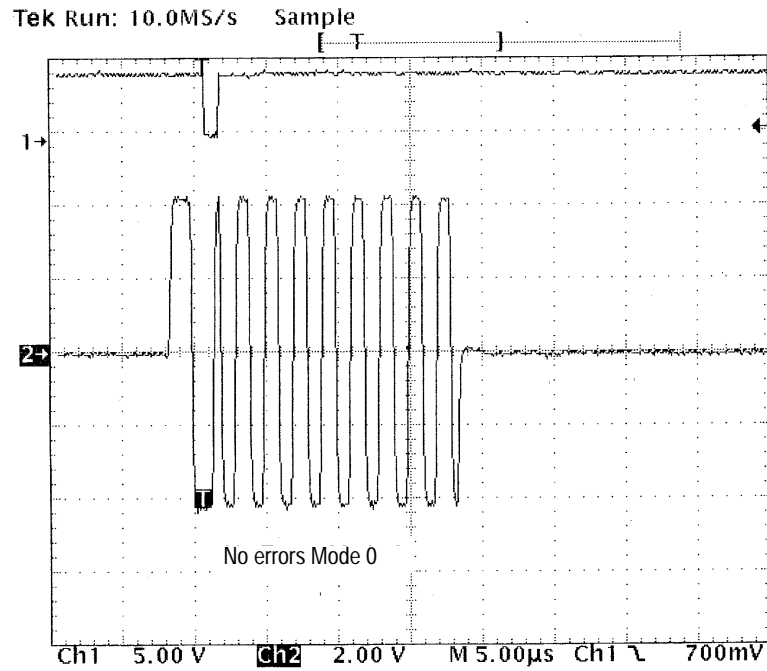
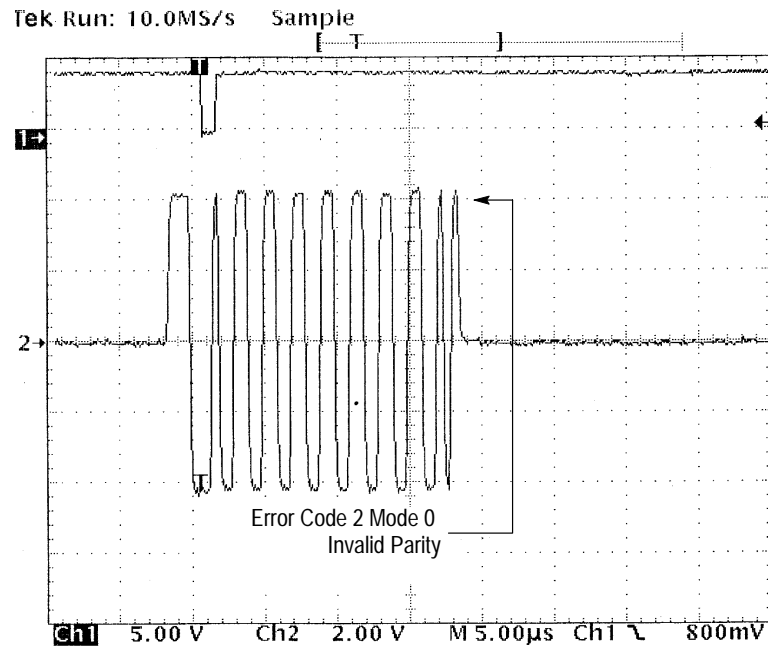

Figure 455-11: No Error Injection
Figure 455-13: Invalid Parity
Follow the steps below to verify that there is no error in the injection transmission. Refer to Figure 455-11.
3. Verify that the parity bit is the opposite of Figure 455-11 (no error injection transmission). Refer to Figure 455-13 for an example of an invalid parity.